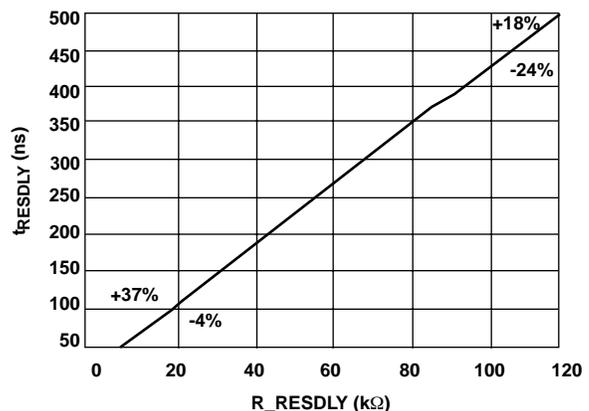

FIGURE 7. R_RESPLY vs. t_RESPLY
- Figure 7 illustrates the relationship of the value of the resistor (R_{RESPLY}) and the resonant delay (t_{RESPLY}). The percentages in the figure are the tolerances of two end points of the curve.